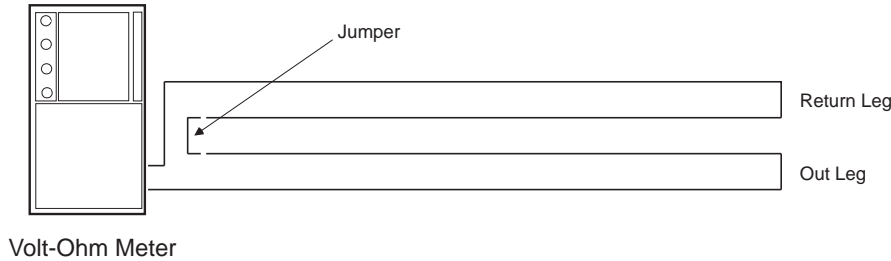

Figure 2-28. Measuring CLASS-A SLC Wiring Resistance
1. Short the “Out” and “Return” legs as shown in Figure 2-28. Measure the resistance using the other two terminating points at the control unit